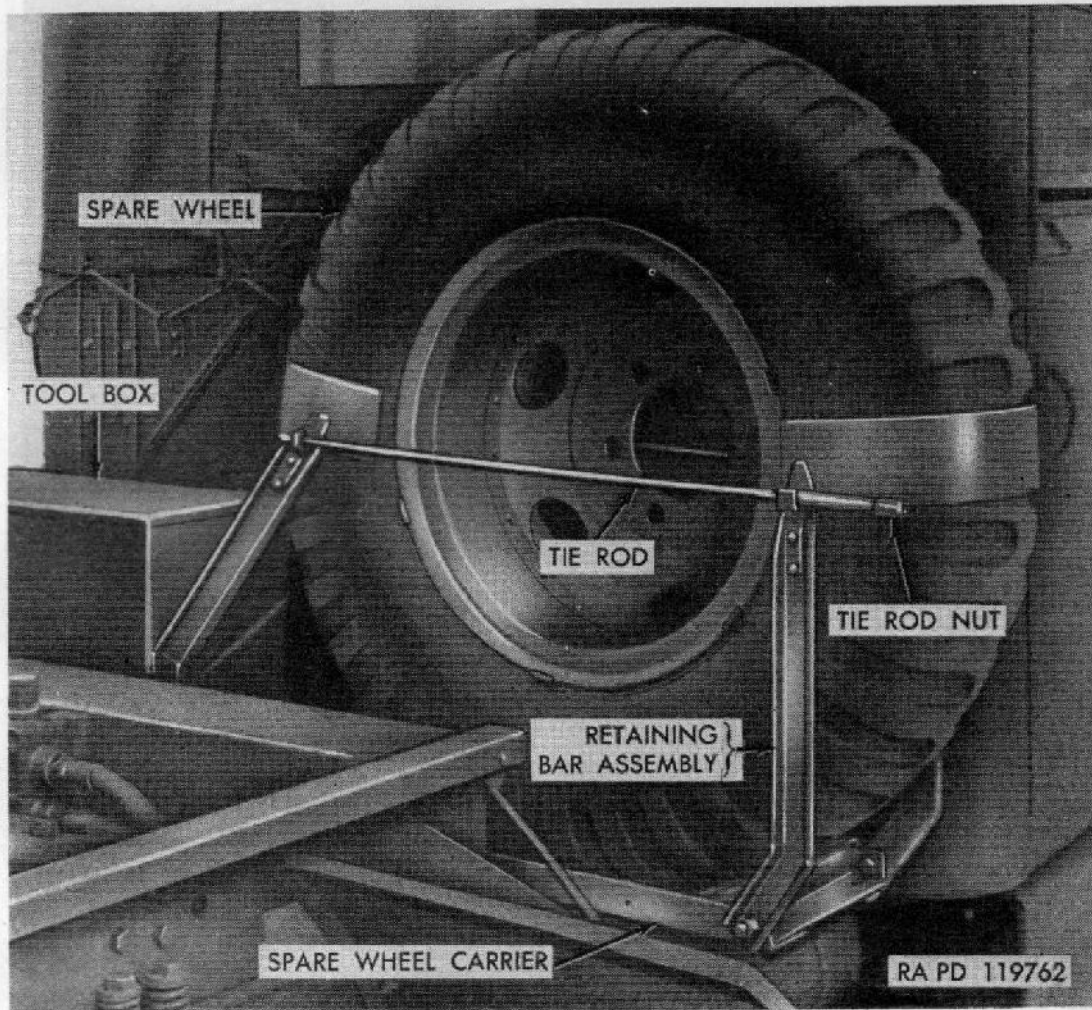

Figure 150. Spare wheel carrier with wheel—M47 and M59.
c. MODEL M47 (figs. 150 and 151).
- (1) *Description.* The spare wheel is carried at rear of cab on right side. An inner support and an outer support, with top conforming to tire contour, are rigidly mounted on frame. A retaining bar assembly, pivoted at bottom, is held against tire by two tie rods. These rods pass through lugs on inner and outer bar assemblies. A hook formed on inner end of tie rod prevents removal. Tie rod nuts on outer ends of rods are tightened to hold spare wheel in place.
- (2) *Operation.*